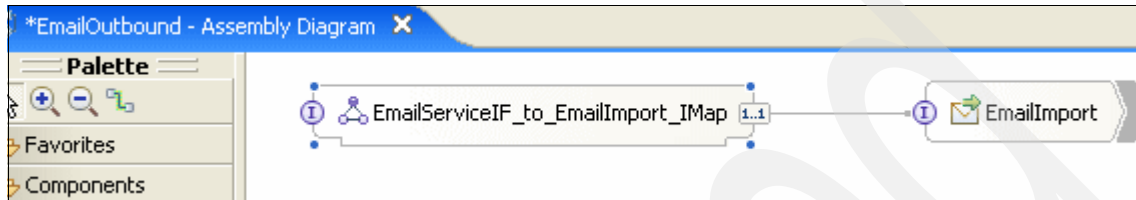

Figure 3-240 EmailOutbound assembly diagram with interface map
- c. Right-click EmailImport and select **Wire to Existing**. See Figure 3-240.